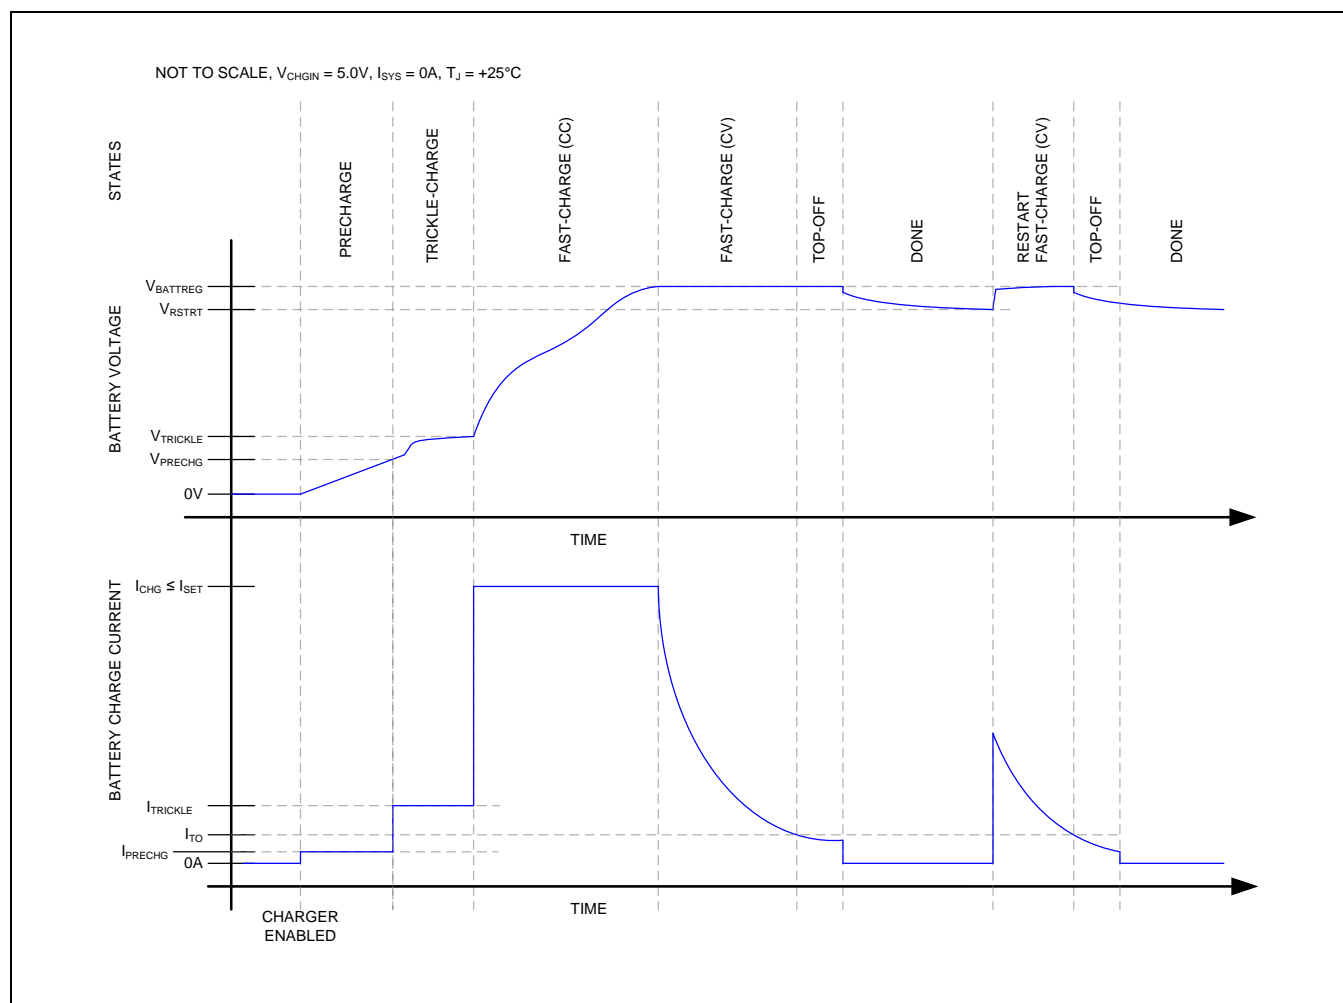
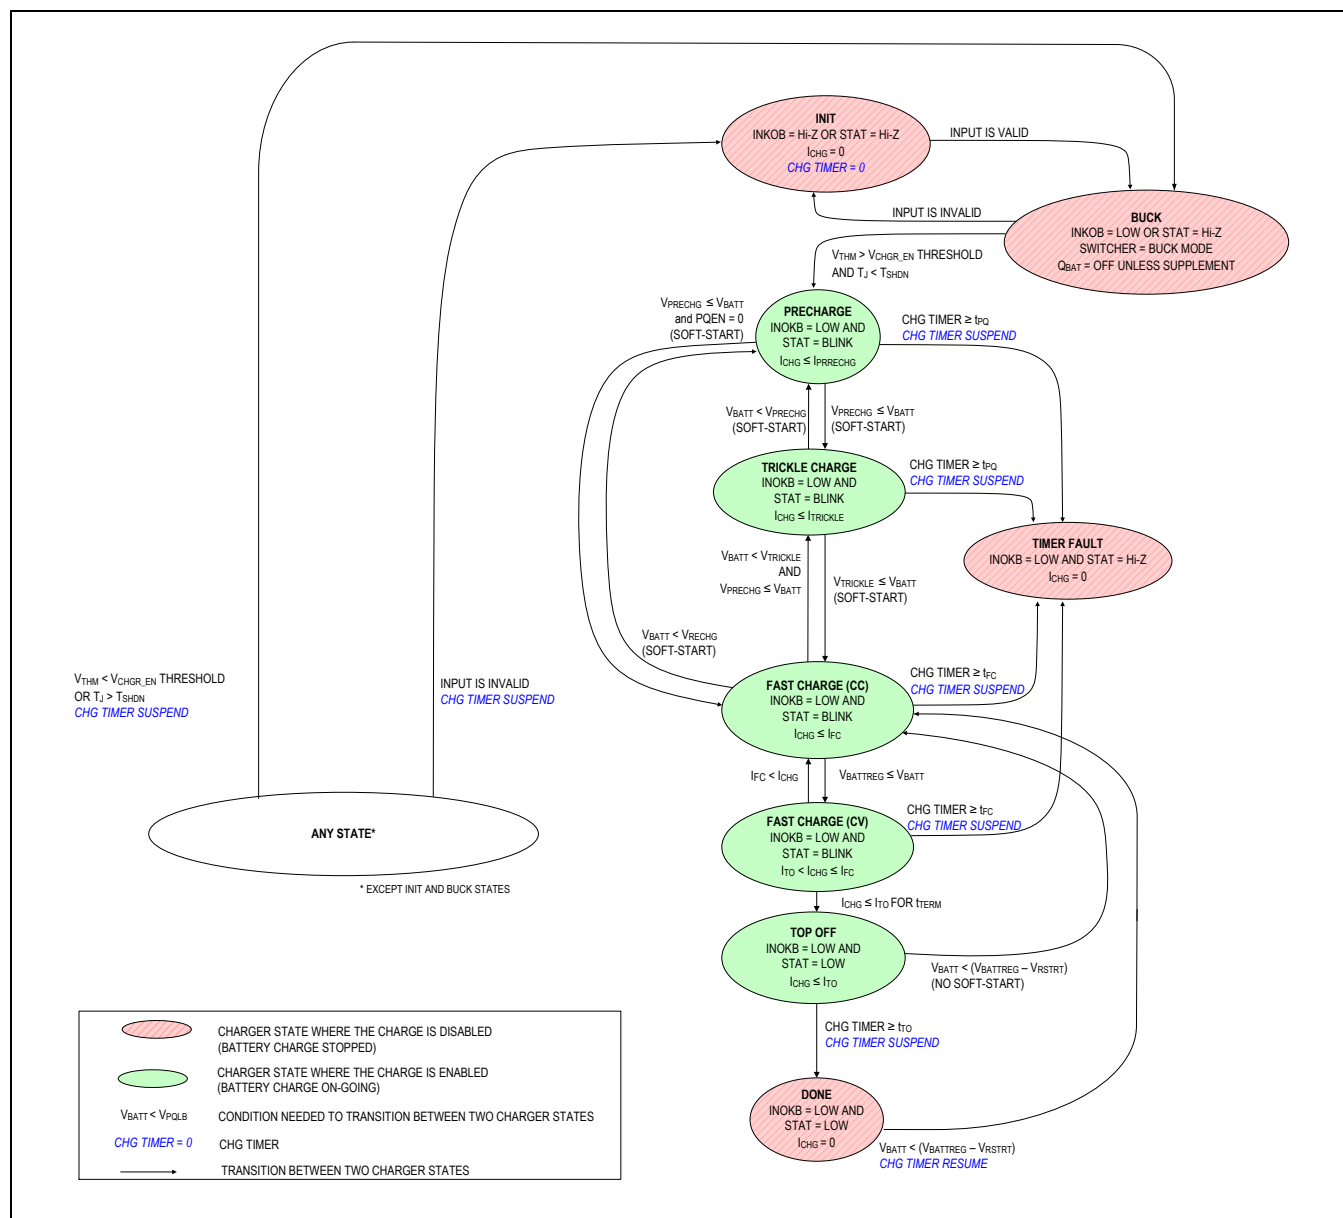

Figure 5. Li+/Li-Poly Charge Profile
Figure 6. Li+/Li-Poly Charger State Diagram
The MAX77757 utilizes several charging states to safely and quickly charge Li+/Li-Poly batteries as shown in Figure 5 and Figure 6. Figure 5 shows an exaggerated view of the Li+/Li-Poly battery progressing through the following charge states when there is no system load and the die and battery are close to room temperature: precharge → trickle → fast-charge → top-off → done.
From any state shown in Figure 6 except thermal shutdown, the “INIT” state is entered whenever the charger inputs CHGIN is invalid or the charger timer is suspended.
In the buck state, battery charging is disabled while the charger input CHGIN is valid. Entering or leaving the buck state is controlled by the voltage of the THM pin. If the voltage of this pin is pulled down by an external device (e.g., MCU) under V_{CHGR_EN} , the chip goes to the buck state from any state if CHGIN is valid as shown in Figure 6. Charging is disabled in the buck state, which means Q_{BAT} is off unless it is in supplement mode. If the voltage of this pin is over V_{CHGR_EN} , the chip leaves the buck state and resumes charging. It should be noted that it is only when CHGIN is valid that charging can be enabled or disabled. Therefore, the external device (e.g., MCU) should check the INOKB signal if CHGIN is valid before trying to enable or disable charging.
As shown in Figure 6, the precharge state occurs when the main battery voltage is less than V_{PRECHG} . In the precharge state, charge current into the battery is I_{PRECHG} .
The trickle charge state occurs when $V_{BATT} > V_{PRECHG}$ and $V_{BATT} < V_{TRICKLE}$, as shown in Figure 6.
As shown in Figure 6, the fast-charge constant current (CC) state occurs when the main-battery voltage is greater than the trickle threshold and less than the battery regulation threshold ($V_{TRICKLE} < V_{BATT} < V_{BATTREG}$).
As shown in Figure 6, the fast-charge constant voltage (CV) state occurs when the battery voltage rises to $V_{BATTREG}$ from the fast-charge CC state.
In the fast-charge CV state, the battery charger maintains $V_{BATTREG}$ across the battery and the charge current is less than or equal to I_{FC} . As shown in Figure 5, charger current decreases exponentially in this state as the battery becomes fully charged.
As shown in Figure 6, the top-off state can only be entered from the fast-charge CV state when the charger current decreases below I_{TO} for t_{TERM} . In the top-off state, the battery charger tries to maintain $V_{BATTREG}$ across the battery and typically the charge current is less than or equal to I_{TO} .
As shown in Figure 6, the battery charger enters the done state after the charger has been in the top-off state for t_{TO} .
The battery charger provides a charge timer to ensure safe charging. As shown in Figure 6, the charge timer prevents the battery from charging indefinitely. The time that the charger is allowed to remain in each of the prequalification states is t_{PQ} . The time that the charger is allowed to remain in the fast-charge CC and CV states is t_{FC} . Finally, the time that the charger is in the top-off state is t_{TO} . Upon entering the timer fault state, STAT becomes Hi-Z.
In the timer fault state, the charger is off. The charger input can be removed and re-inserted to exit the timer fault state (See the “any state” bubble in the lower left of Figure 6).
As shown in Figure 6, the thermal shutdown state occurs when the battery charger is in any state and the junction temperature (T_J) exceeds the device’s thermal-shutdown threshold (T_{SHDN}). When T_J is close to REG, the charger folds back the input current limit to 0A so that the charger and inputs are effectively off.